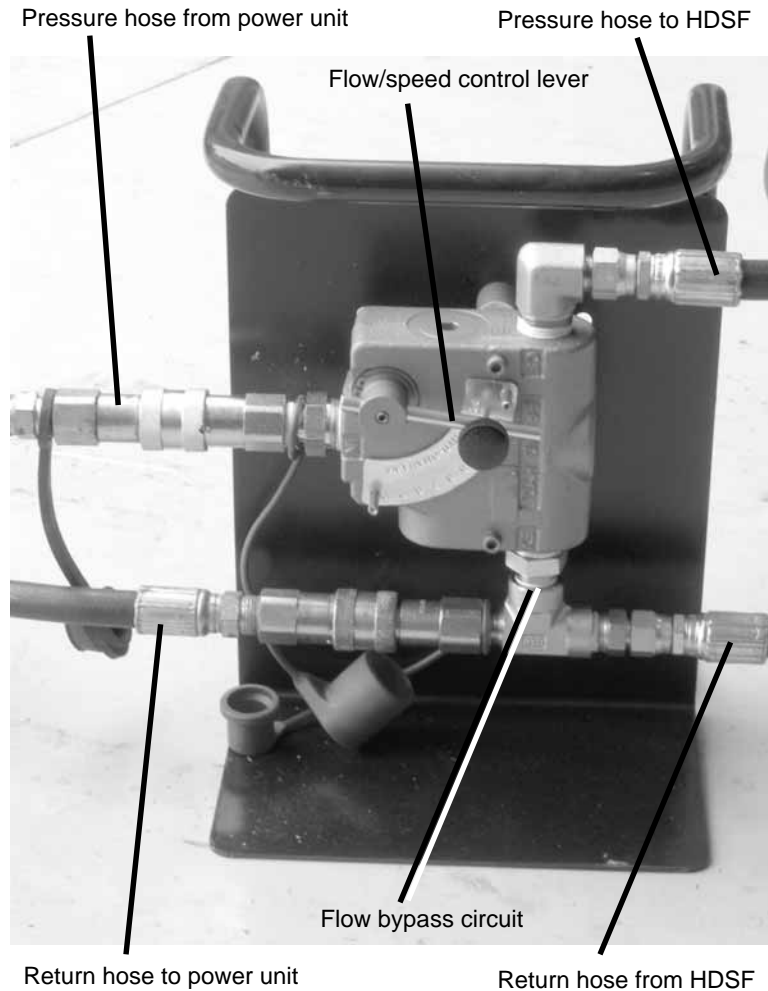

Figure 3-9. The flow control valve is used to set the cutting speed of the HDSF when there is no flow control on the hydraulic power unit.
- Speed control valve (for use with hydraulic power units without built-in flow control). See Figure 3-9.